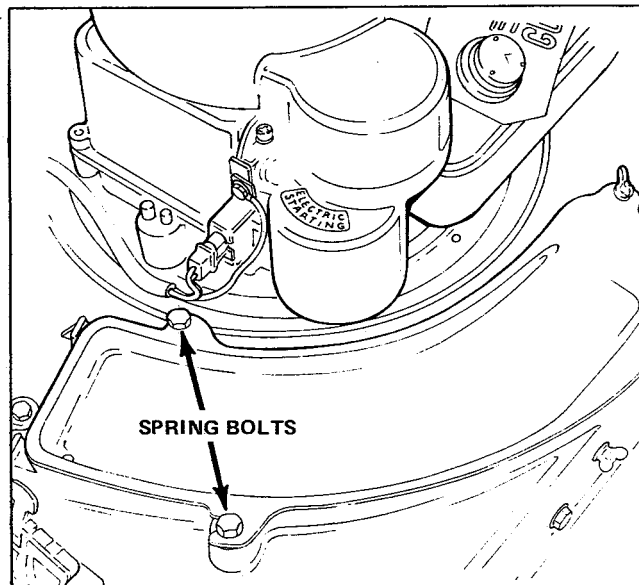

Figure 12. Installing Mower Deck Plate
To install the mower deck plate, slide the two slots under the two spring bolts and insert and tighten the wing nut through the deck plate into the mower deck (see figure 12).
Clippings can be dispersed on the lawn through the discharge deflector. This is done by using the mower deck plate only on the mower (see figure 12).
- a. Remove the fuel cap (see figure 12).